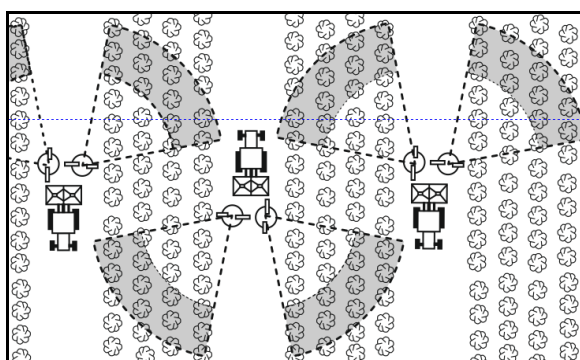

Fig. 20
5. Place the PTO shaft in the holder provided (Fig. 20).